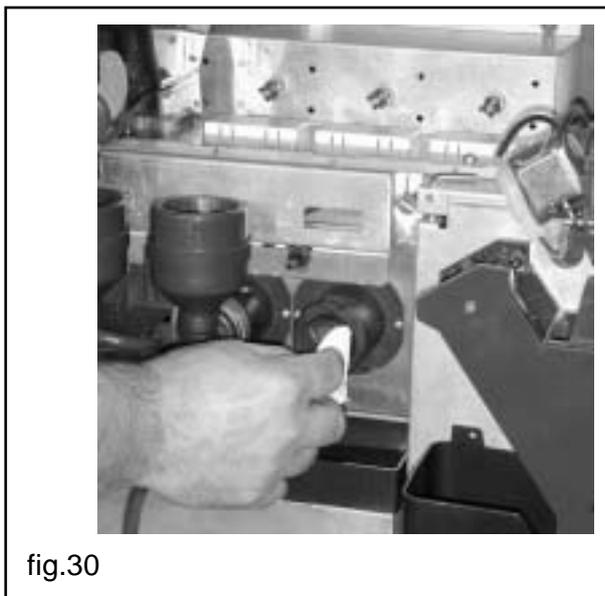

fig.30
- with a cloth soaked with the solution clean the mixer assembly base (fig.30)